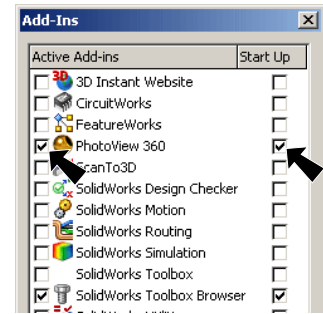

Fig. 30
Step 2. In the dialog box scroll down to **PhotoView 360** and place a check in the check box under **Active Add-Ins** and **Start-Up**, **Fig. 30**. Click OK.